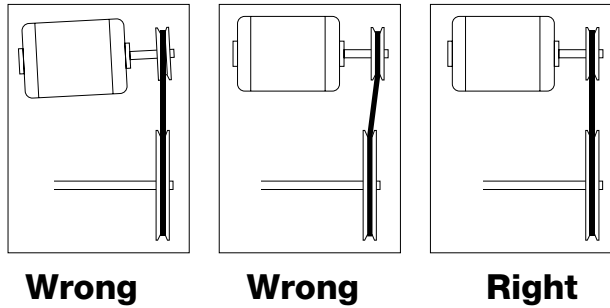

Fig. 4
On belt drive units, centering can be accomplished by (1) loosening the inlet cone bolts to move the inlet cone or by (2) loosening the bearings in order to move the shaft. Wheel and inlet cone overlap can be adjusted by loosening the wheel hub set screw and moving the wheel to the desired position. Tighten all fasteners and set screws securely and realign drive pulleys after adjustment. Check pulleys and belts for proper alignment to avoid unnecessary belt wear, noise, vibration and power loss. Motor and drive shafts must be parallel and pulleys in line (Fig. 4)